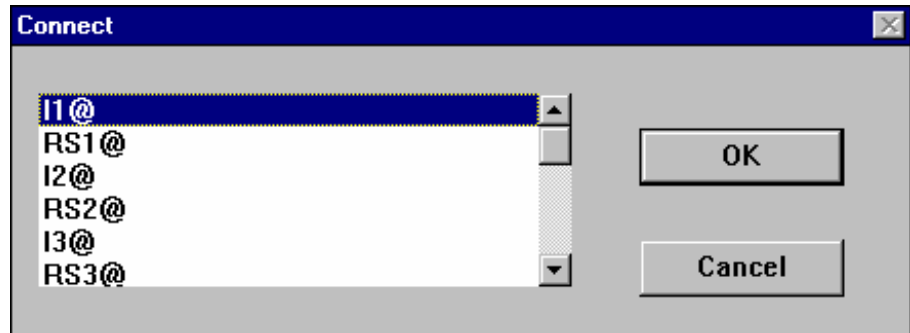

Figure 6-4: Destination Point Dialog Box Example
7. Select Connect from the module menu. The module connect dialog box appears (Figure 6-4) containing destination points for the selected module.